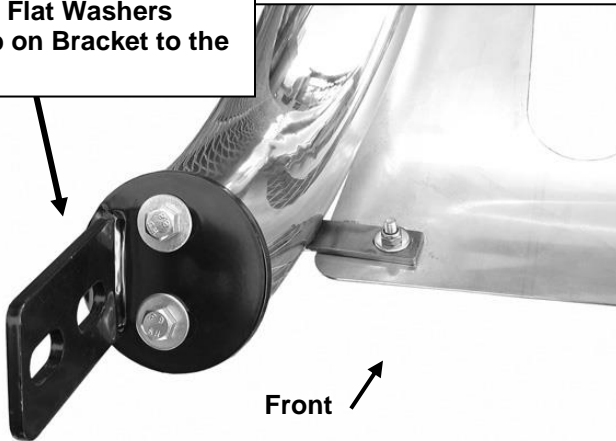

Fig 3
- Loosely attach the driver side Bull Bar Bracket to the Bull Bar using the included (2) 8mm x 25mm Hex Bolts, (2) 8mm Lock Washers and (2) 8mm Flat Washers, **(Figure 3)**. Center the Bracket on the end of the Bull Bar tube and snug but do not tighten at this time. Repeat this step for passenger side Bull Bar Bracket installation.